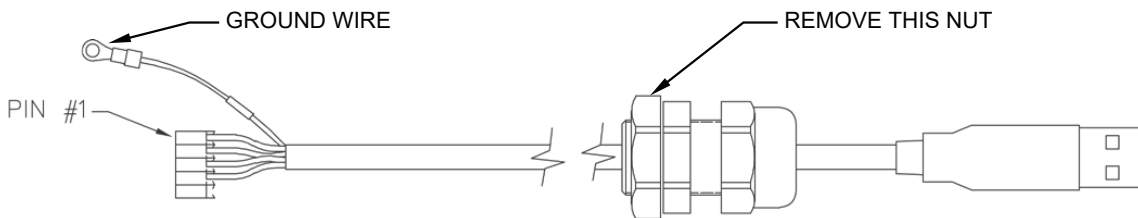

Figure No.9
3. Loosen the gland connector nut from the 8200-B163-0A cable/gland assembly (see Figure No. 9) and slip off over the 5-pin cable connector and ground wire.
8. To attach the ground wire (see Figure No.9); remove a 6-32 nut and washer from the corner of the main board.